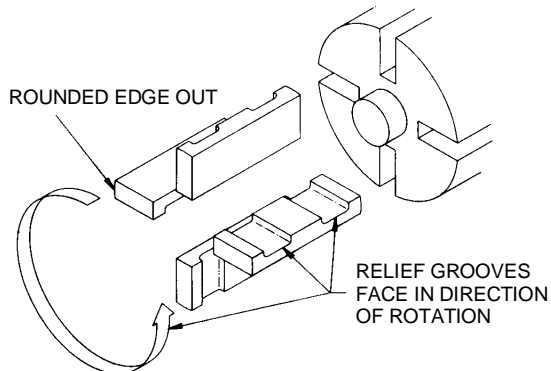
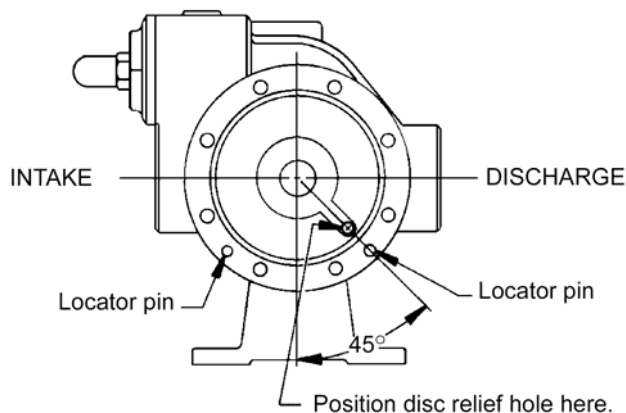

Figure 5 – Vane Replacement
Figure 6 - Disc Relief Hole Location
3. Turn the shaft by hand until a vane (14) comes to the top (12 o'clock) position of the rotor. Remove the vane.
4. Install a new vane (14), ensuring that the rounded edge is UP, and the relief grooves are facing towards the direction of rotation. See Figure 5.
1. Align the liner keyway with the setscrew (74) that extends down into the pump casing (12) and start the liner (41) into the casing. The word "INTAKE" cast on the liner must face the intake port of the pump casing. Uniformly tap the outer edge of the liner with a rubber mallet to fully insert into the casing.
2. Place the disc (71) against the liner (41) with the seal cavity outward and disc relief hole located as shown in Figure 6.
3. Without installing the head O-ring (72) or mechanical seal components, temporarily attach the outboard head (20) and bearing (24) to the casing (12). Install and hand-tighten two head capscrews (21), 180 degrees apart. This head will be used to hold and align the rotor and shaft (13) while the inboard side of the pump is assembled. **NOTE: It is a good practice to attach pump heads to the same ends they were removed from.**
4. Before installing the rotor & shaft assembly (13), the direction of pump rotation must be determined as follows: If the pump is to be **right-hand** with **clockwise** rotation, the intake port and the relief valve must be on the **right** with the drive end of the shaft pointing towards the observer. If the pump is to be **left-hand** with **counterclockwise** rotation, the intake port and the relief valve must be on the **left** with the drive end of the shaft pointing towards the observer.
5. Remove the vanes (14) and push rods (77) (if equipped) from the rotor and shaft assembly (13). Inspect for wear and damage, and replace as follows:
- a. Insert the vanes (14) into the bottom rotor slots with the relief grooves facing in the direction of pump rotation, and with the rounded edges outward. See Figure 5.
- b. If the pump is equipped with the four-vane rotor and shaft (13A), hold the two bottom vanes (14) in place while inserting the two push rods (77).
- c. After the bottom vanes (14) (and push rods, (77) if equipped) are installed, carefully insert the non-driven end of rotor and shaft into the casing (12).
- d. Install all remaining vanes (14) into the top positions of the rotor.
6. Install the disc (71) on the inboard side of the pump with the seal cavity facing outward and the disc relief hole located as shown in Figure 6.
7. Install a new head O-ring (72) in the groove between the disc (71) and the casing(12).